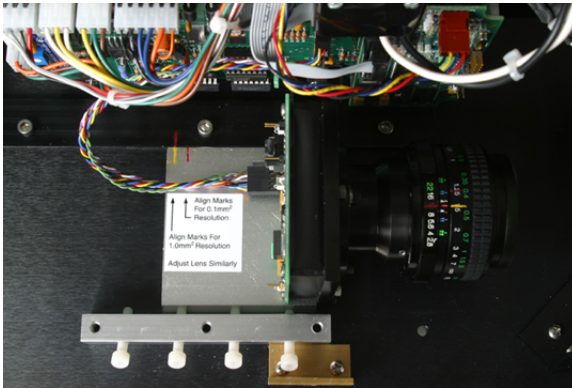

Figure 7. LI-3100C camera position configured for 1.0 mm² operation.
- After the belts are placed over the drive pulleys, slide the upper and lower pulleys through the belts and insert the pulley shaft into the rear plate bearing. Be sure that the peripheral end groove is toward the front and that it rests in the pulley support bracket (Figures 7 and 8).
- Replace the lower belt idler. Be certain that the peripheral end groove is toward the front and rests on the idler support bracket (Figure 7).
- Replace the upper belt rocking idler. Be certain that the notch on the idler end plate rests on the rocking idler support post (Figure 7).